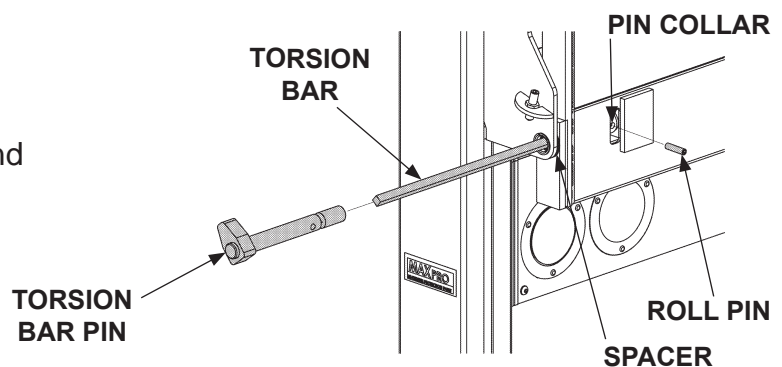

FIG. 19-3
4. Drive roll pin from pin collar and torsion bar pin (**FIG. 19-3**). Then, remove torsion bar pin, spacer and torsion bar (**FIG. 19-3**).